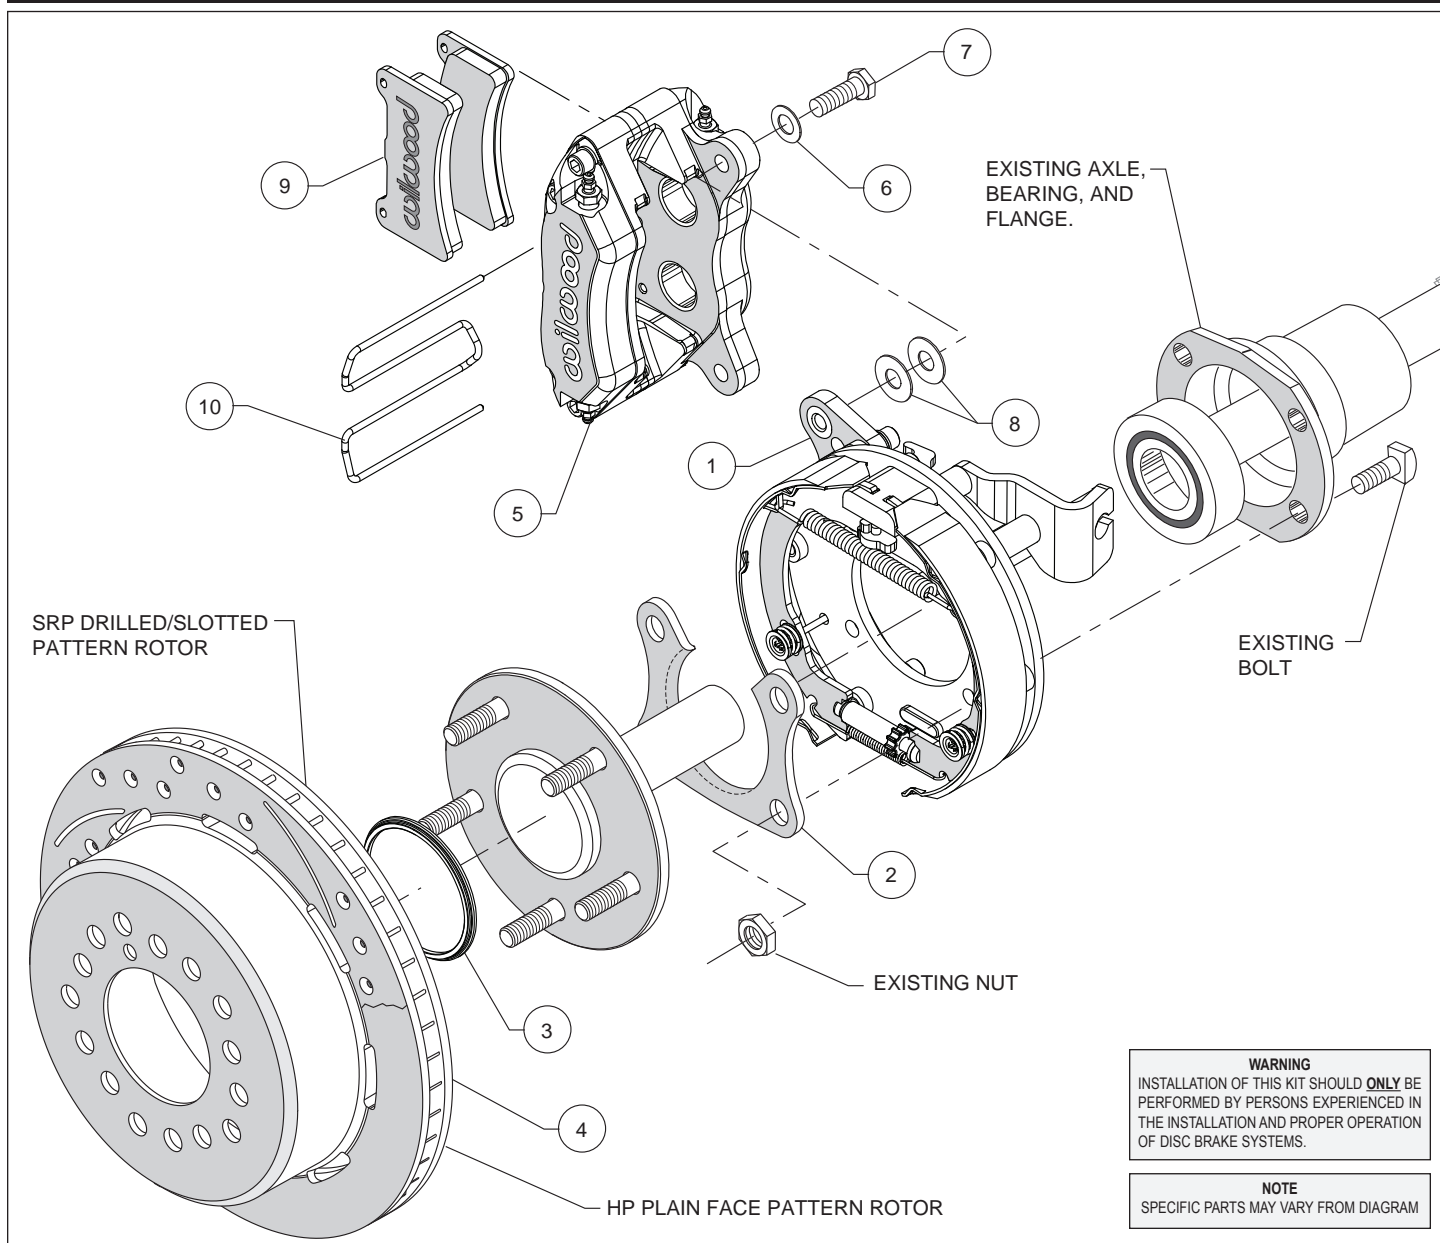
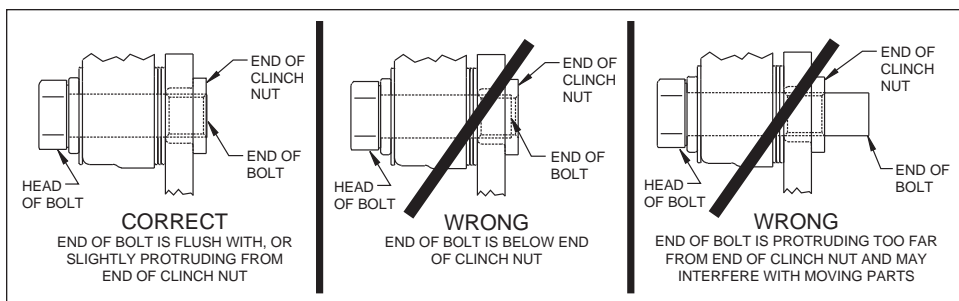

Figure 1. Typical Installation Configuration
Figure 5. Clinch Nut Engagement Diagram
**Assembly Instructions** (numbers in parenthesis refer to the parts list, and Figure 1 on the preceding pages): **CAUTION:** All mounting bolts must fully engage clinch nuts. Be sure to check that all bolts are either flush or protruding through flanged side of clinch nut after shimming, Figure 5.
- Orient the bracket assembly (1) as shown in Figure 1 and Photo 1 and slide it onto the axle. Insert the axle and bracket into the axle housing. Ensure that the bracket assembly backing plate fits flush against the axle housing flange.
- Install the bearing retainer (2) with the opening pointing upward and the lip facing inward (toward the bearing), as shown in Figures 1 and 4, and Photo 2. Secure retainer and bracket assembly to the axle housing flange using the Original Equipment Manufacturer (OEM) bolts and nuts, Figure 1. Apply red *Loctite*® 271 to the OEM bolt threads and torque to OEM specifications.
•Slide the rotor registration adapter (3) onto the axle register on the axle flange with the smaller O.D. facing toward the rotor/hat (4), Photo 3. Align the correct hole pattern in the rotor/hat with the stud pattern on the axle flange and slide into place, Figure 1 and Photo 4. **NOTE:** The rotor/hat must fit flush against the axle flange or excessive rotor run out may result. Install three lug nuts (finger tight) to keep the rotor/hat assembly in place while continuing with the installation. **NOTE:** Some OEM and after market axles come with stud sizes larger than 0.50" diameter. Verify stud size and have a qualified machine shop drill the bolt circle of the hat/rotor to the correct stud size, if necessary.
•**NOTE:** Please reference the caution statement at the beginning of the assembly instructions. Mount the caliper (5) onto the caliper mounting bracket (1) using bolts (7) and washers (6), as shown in Figure 1. Initially place two .035" thick shims (8) on each bolt between the caliper and the bracket, Photo 5. Temporarily tighten the mounting bolts and view the rotor (4) through the top opening of the caliper. The rotor should be centered in the caliper, Photo 6. If not, adjust by adding or subtracting shims between the bracket and the caliper. Always use the same amount of shims on each of the two mounting bolts. **NOTE:** The end of each bolt must be flush with or slightly protruding from the head of the clinch nut, as shown in Figure 5. If necessary place spare shims between washer (6) and caliper mounting ear to achieve the proper clinch nut engagement. Once the caliper alignment and clinch nut engagement are correct, remove the bolts one at a time, apply red Loctite® 271 to bolt threads, and torque to 40 ft-lb.